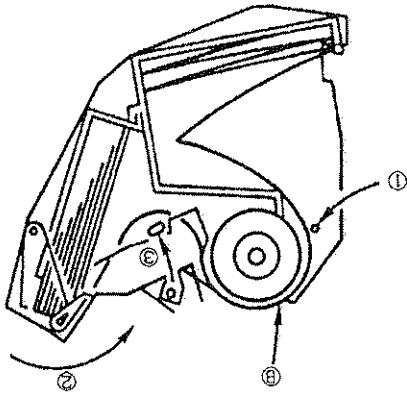

Figure 6.1.6
- 7) Return the chart roller and chart pressure plate to their original positions, following through C] in Figure 6.1.6. Engage the projections D], indicated by the arrow (see Figure 6.1.6) with the holes on the left and right sideplates on the chart cassette.